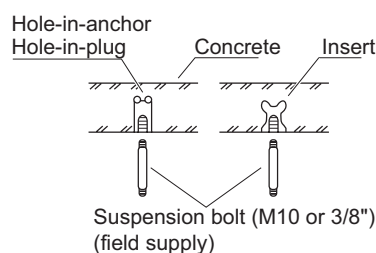

Fig. 2-131
- Insert suspension bolts as shown in the diagram. (Fig. 2-131) or
- (2) Screw in the suspension bolts allowing them to protrude from the ceiling as shown in Fig. 2-131. (Cut the ceiling material, if necessary.)